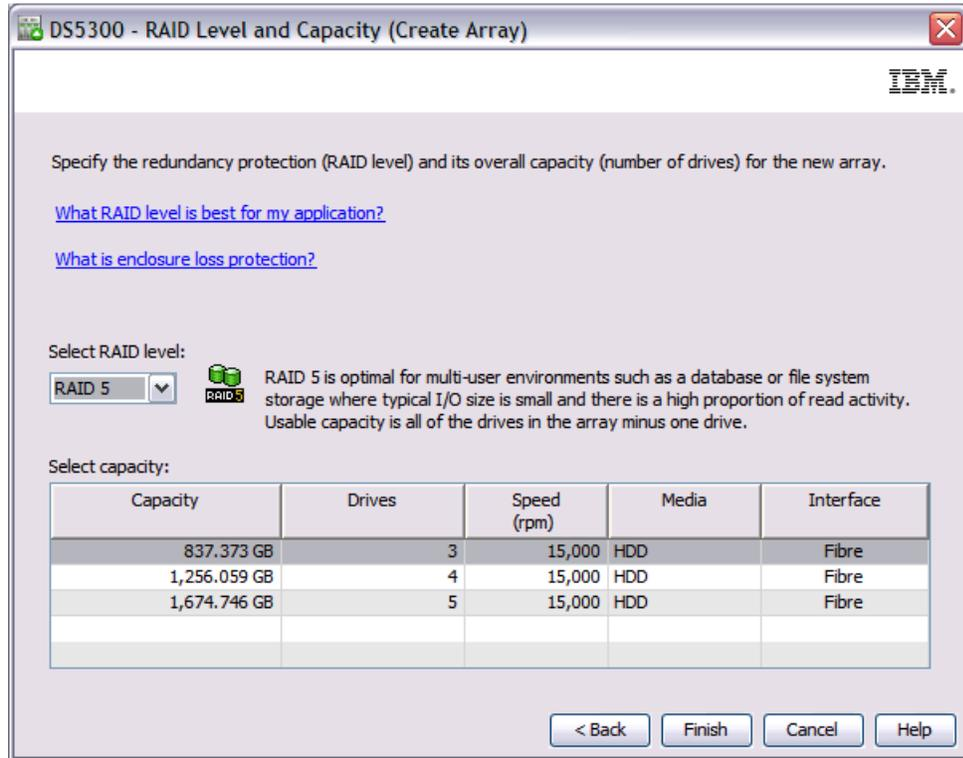

Figure 3-11 Select RAID level and capacity with automatic configuration
- Click **Next >** to select the RAID level and amount capacity of the array. You see a window as shown in Figure 3-11.